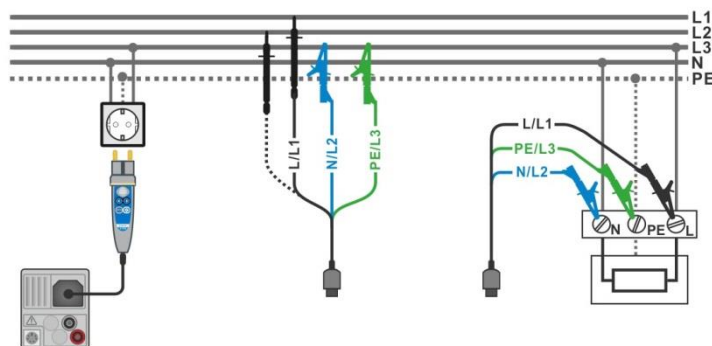

Figure 7.44: Phase-neutral or phase-phase line impedance measurement – connection of Plug commander and 3-wire test lead
- › Connect test leads or Plug commander to the object under test, see **Figure 7.44**.